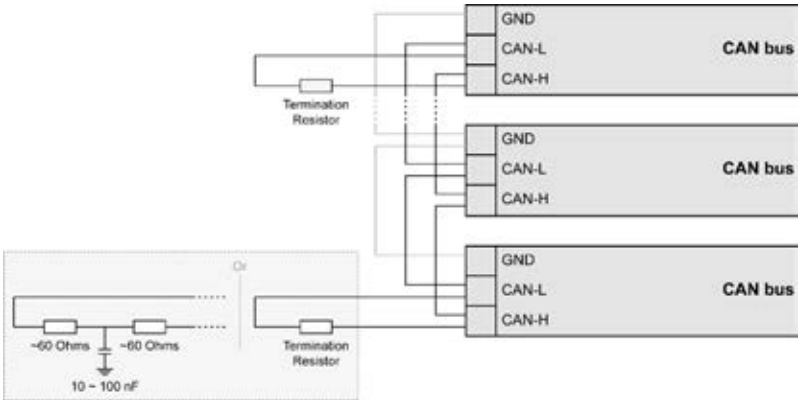

Fig. 48: CAN bus - termination
The termination resistor is connected between CAN-H and CAN-L (Fig. 48).
- Divide the termination resistance into 2x60 Ohms with a center tap connected to ground via a capacitor of 10 to 100 nF (Fig. 48).